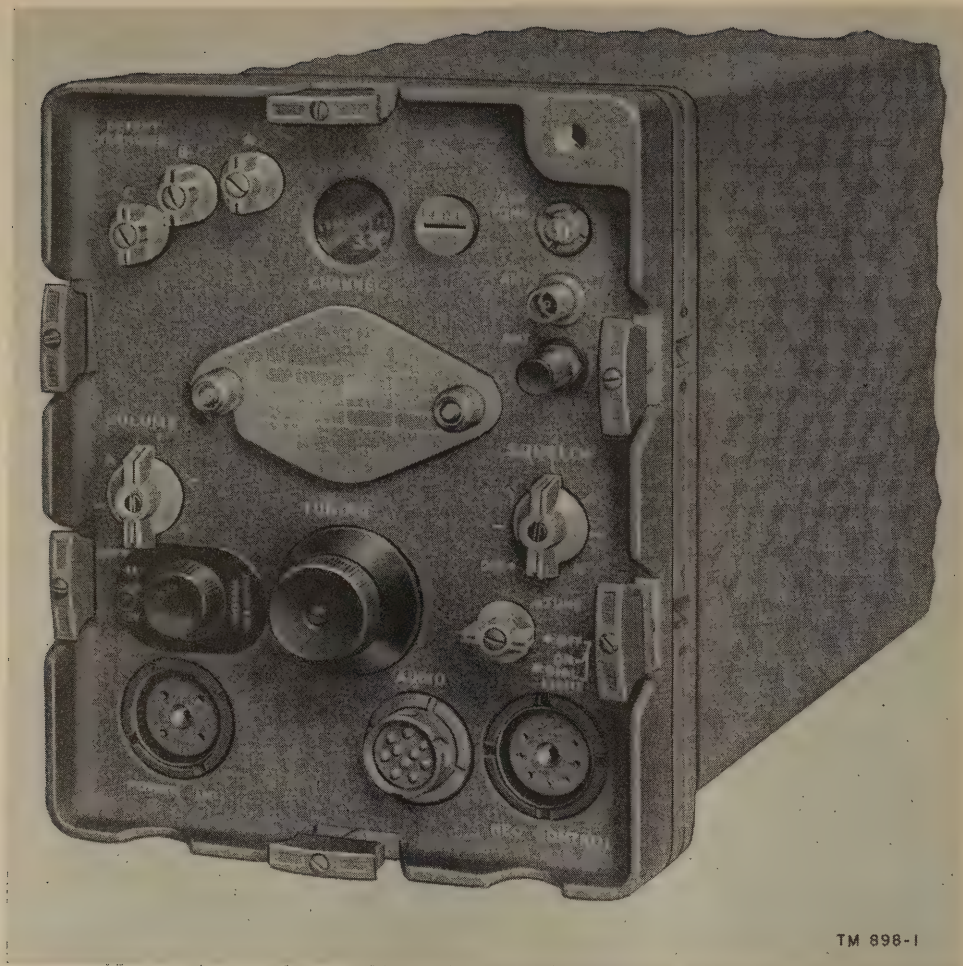

Figure 6. Radio Receiver R-108/GRC.
a. Radio Receivers R-108/GRC, R-109/GRC, and R-110/GRC are used as auxiliary receivers in Radio Sets AN/VRC-20, -21, and -22, respectively. The receivers are very similar in structure, function, and detailed circuit and mechanical arrangement; they differ from one another only in their operating frequency ranges and in those components which determine the frequency range. Hence, Radio Receiver R-108/GRC (fig. 6) is similar externally to the other receivers, except for the calibrations of the tuning dial. Receiver characteristics pertinent to system operation are listed in paragraph 5; complete information on the receivers is contained in TM 11-898.
sis assemblies inclosed in a metal case (fig. 6). The bottom of the case is fitted with channel rails which are used to secure the unit to the vehicular mounting (par. 33). When the case is removed, the replaceable parts on the receiver chassis are made accessible (fig. 55).